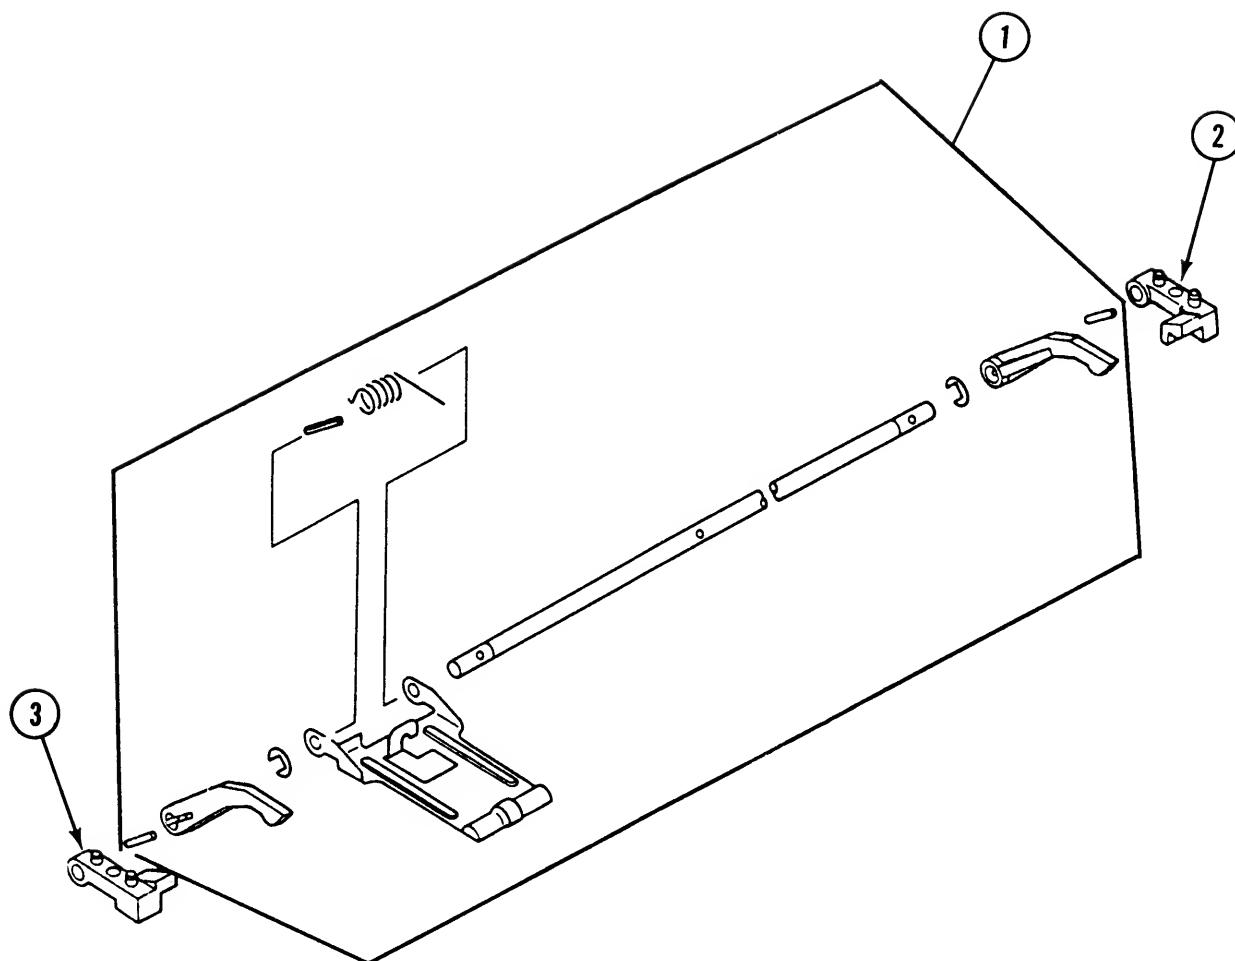

FIGURE 7
IPL.15	Pressure Assembly (Figure 7)
□ **PRESSURE ASSEMBLY (Figure 7)**